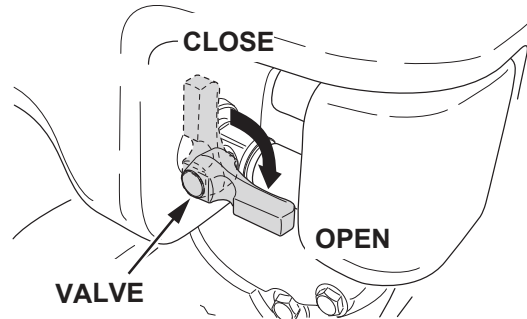

Figure 26. Water Tank Valve (Open)
1. If your application requires sprinkling work, open the valve of water tank (Figure 26).